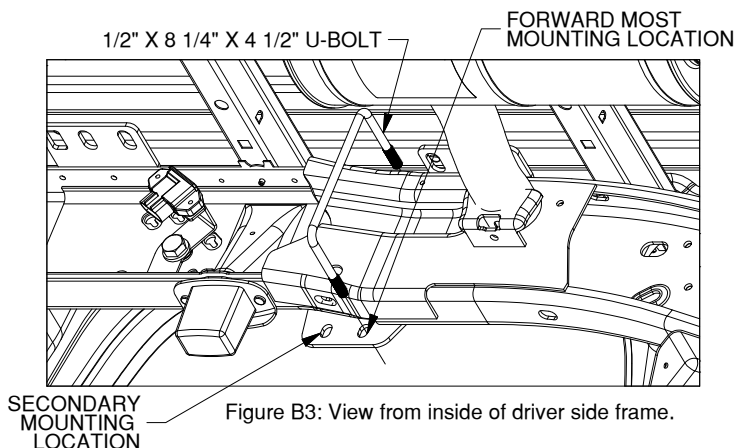
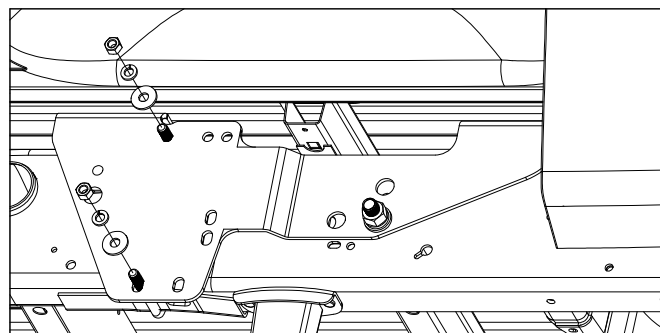

Figure B3: View from inside of driver side frame.
Figure B4: View from outside of driver side frame.
- 2. Install the U-bolt.** Locate a 1/2" x 8 1/4" x 4 1/2" U-bolt, two 1/2" flat washers, 1/2" split lockwashers, and 1/2" finish nuts. Pass the U-bolt from the inside of the frame through the two forward most mounting locations in the frame bracket, see figure B3. It is acceptable to install the U-bolt in a secondary location if frame geometry prohibits using the forward location. Attach the U-bolt to the frame bracket with 1/2" flat washers, 1/2" split lockwashers, and 1/2" finish nuts, as shown in figure B4.